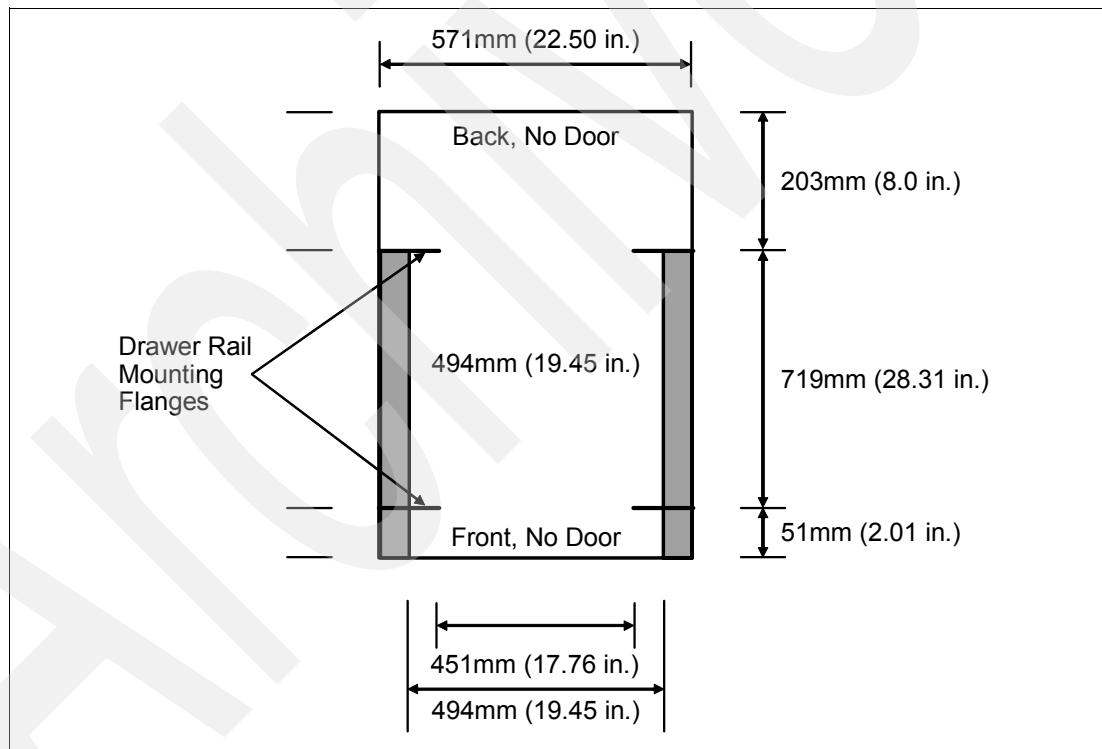

Figure 1-6 Top view of non-IBM rack specification dimensions
- ▶ The front rack opening must be 451 mm wide  $\pm 0.75$  mm (17.75 in.  $\pm 0.03$  in.), and the rail-mounting holes must be 465 mm  $\pm 0.8$  mm (18.3 in.  $\pm 0.03$  in.) apart on center (horizontal width between the vertical columns of holes on the two front-mounting flanges and on the two rear-mounting flanges). Figure 1-6 shows a top view showing the specification dimensions.